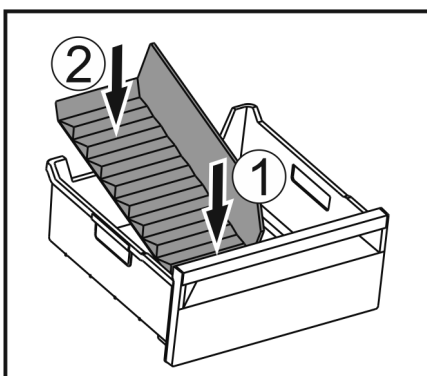

Fig. 107
- ▶ Insert the front part of the ice compartment divider. Fig. 107 (1)
- ▶ Lower the rear part of the ice compartment divider to the drawer bottom. Fig. 107 (2)